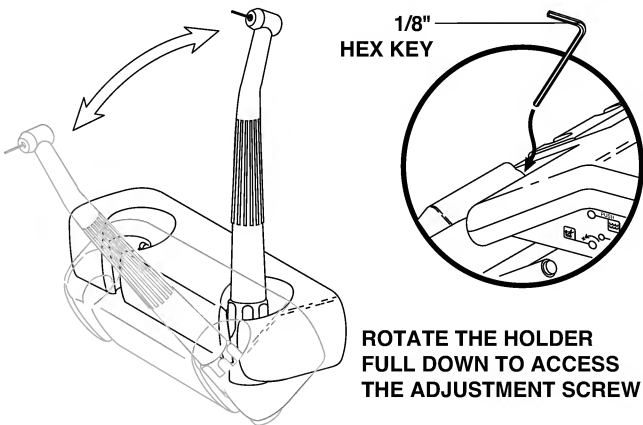

Figure 11A. Unitized Handpiece Holder
- Loosening or tightening the tension adjustment screw shown in Figures 11A and 11B.